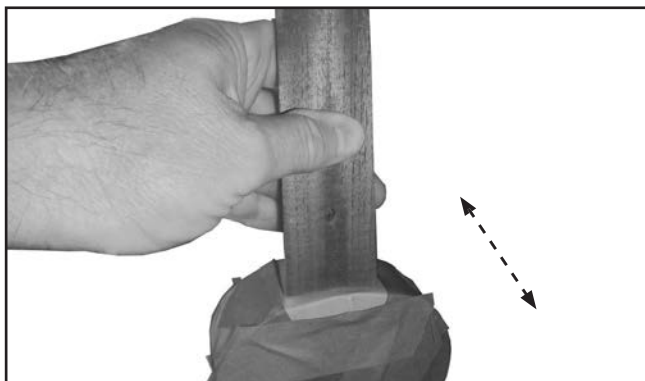

Figure 5. Sanding neck.
3. Gently sand neck where it will mate with body (see **Figure 5**).